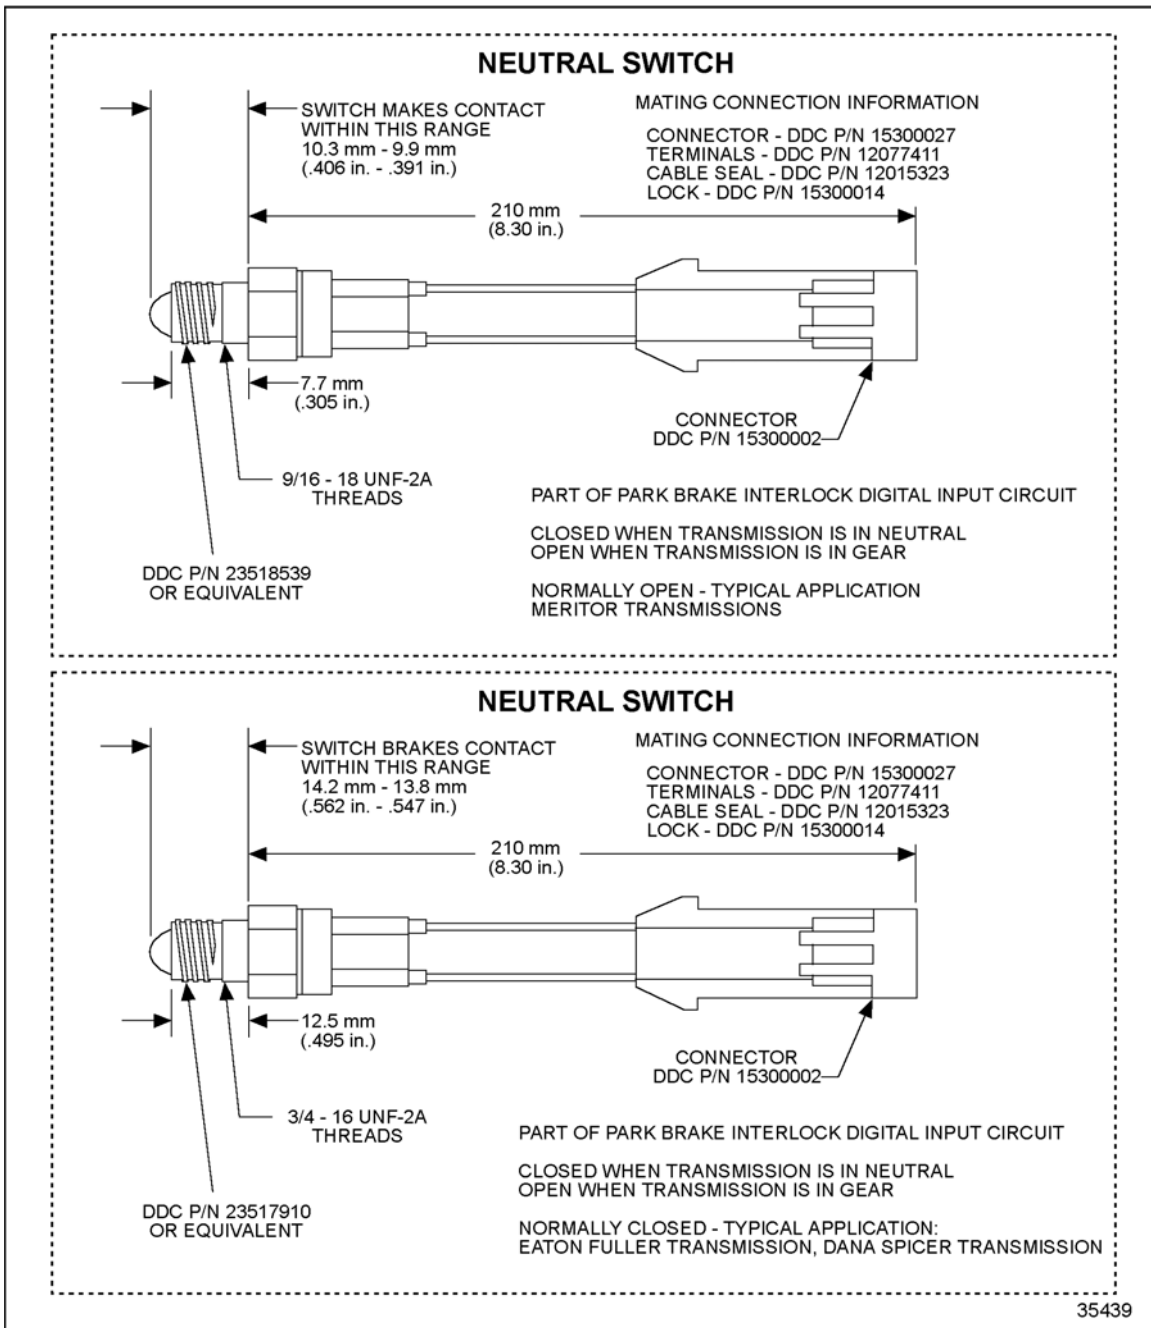

Figure 6 Neutral Switches
The available neutral switches with dimensions and connector information are shown in Figure 6.
1. Remove the factory plug and install the correct neutral switch. For typical Eaton Fuller transmissions, use switch P/N: 23517910 (listed in Table 1); for typical Meritor transmissions, use switch P/N: 23518539 (listed in Table 1). Torque fitting to 34 – 41 N·m (25 – 30 lb·ft). See Figure 6.